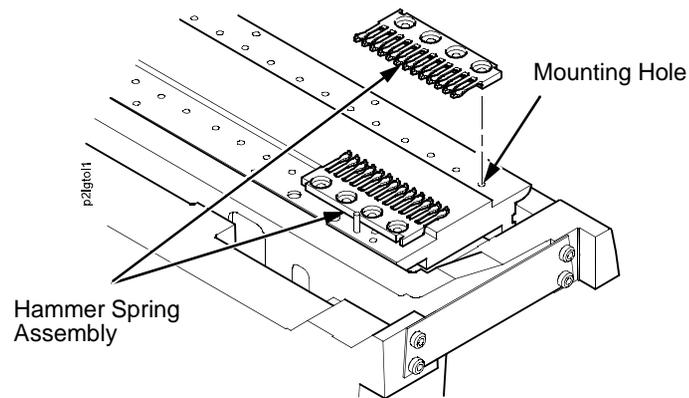

Figure 22. Pair Hammer Spring Assemblies on a Double Hammer Bank
4. Handling the assemblies by the mounting bases only, position the first pair of new assemblies on the hammer bank in the available positions nearest (either) end of the hammer bank. Align the assemblies as closely as possible over their mounting screw holes. (See Figure 22.)